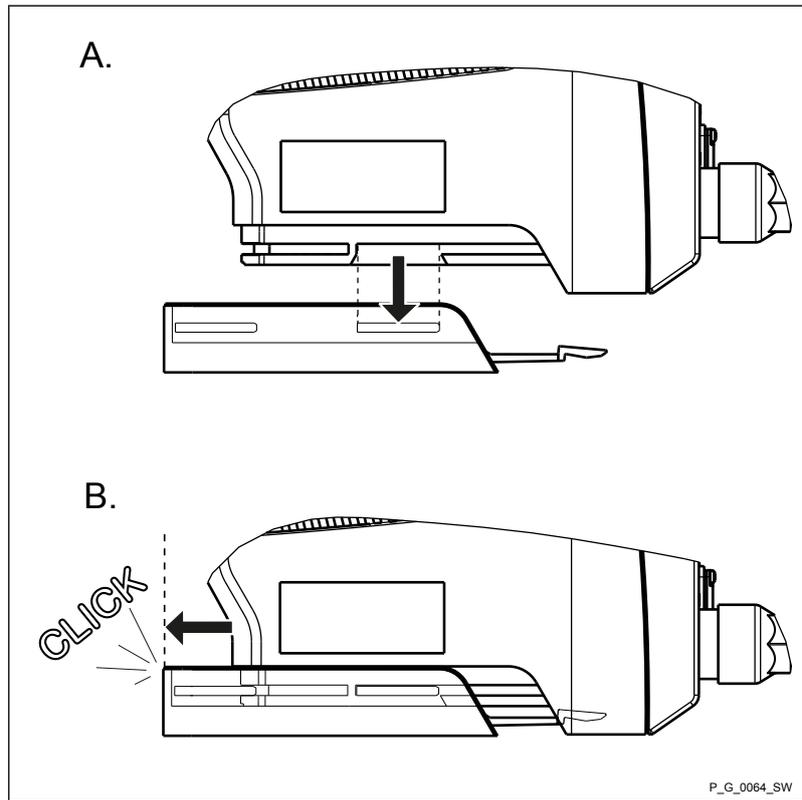

Fig. 9
3. ➔ Lock the foot of the metering pump into the mounting plate – see further information Fig. 9.